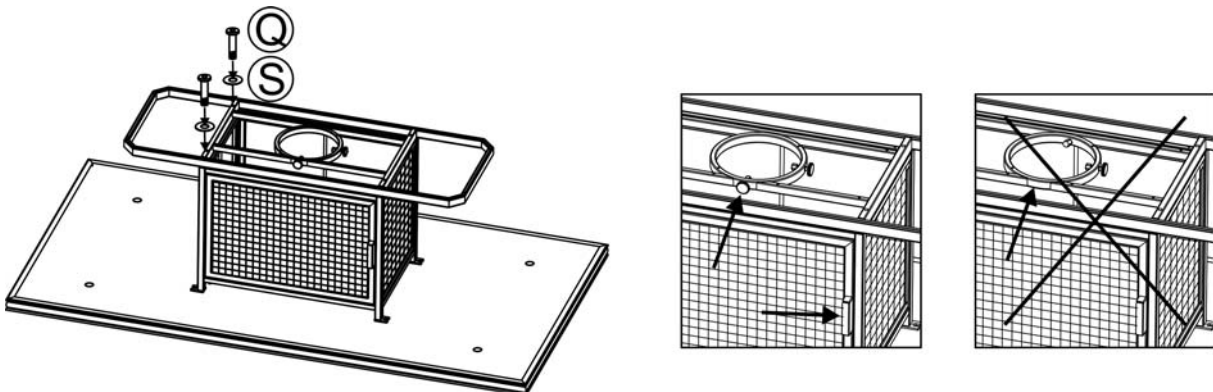

Figure 4
4. Attach the leg connector bracket to the firepit base by using four 1/4"x50 mm bolts and Ø6.5x1.0 mm washers as shown in Figure 4. Guide the bolts through the holes in the complete base into the pre-drilled holes in the table top. Hand tighten only 2-3 turns.